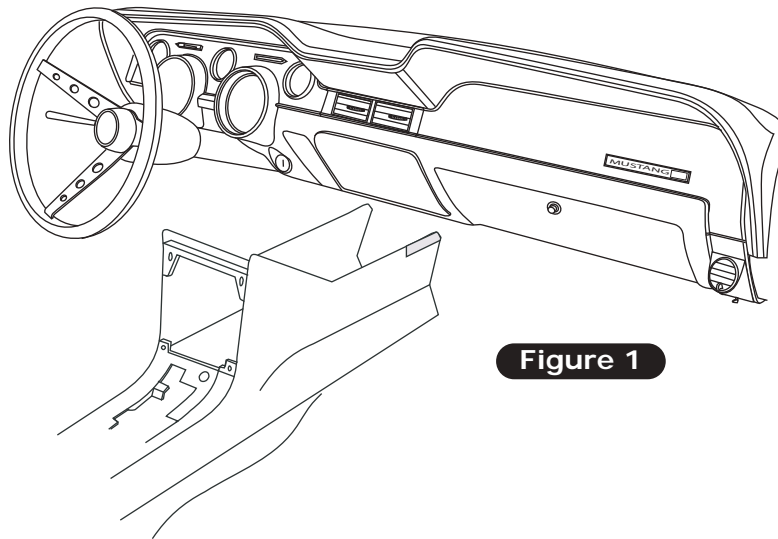

Figure 1
4. Reinstall the center console (if equipped). Modify console as shown in Figures 1 & 1a, below.